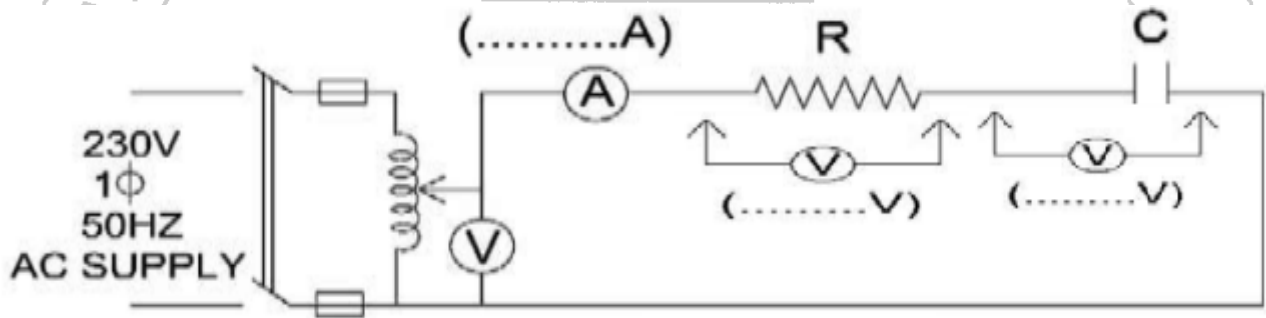

Fig 21.3 : R-C series circuit diagram
2. Connect the circuit as shown in figure 21.3.